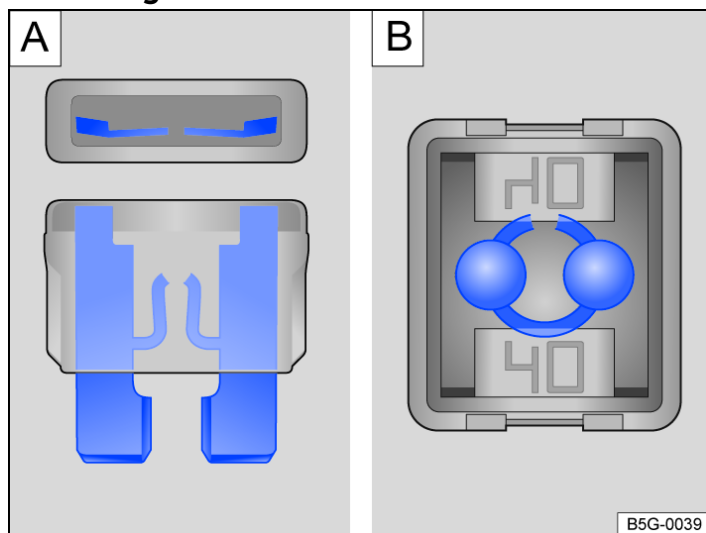

Fig. 1 Blown fuse (general example).
- A blown *flat connector fuse* (ATO®, MINI®) has metal strips that have burned through, which you can see through the transparent housing from above and from the side → fig. 1 A.
- A blown *block fuse* (JCASE®) is recognizable by the melted metal strip seen through the transparent housing from above → fig. 1 B.